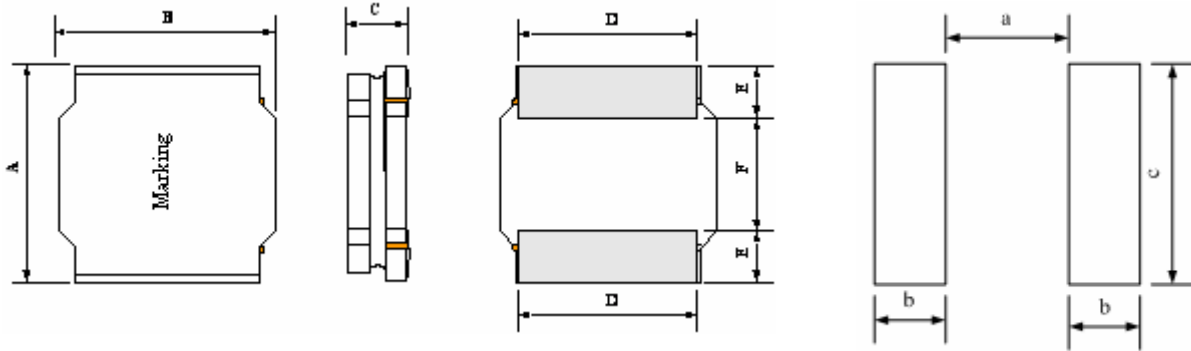

Fig.5-1
Dimensions and recommended PCB pattern for reflow soldering, please see Fig.5-1, Fig. 5-2 and Table5-1.
| 8.2 Resistance to Flexure | No visible mechanical damage.  | ① Solder the chip to the test jig (glass epoxy board) using eutectic solder. Then apply a force in the direction shown as Fig.8.2-1. ② Flexure: 2mm ③ Pressurizing Speed: 0.5mm/sec ④ Keep time: 30±1s ⑤ Test board size: 100X40X1.0 ⑥ Land dimension: Please see Fig.5-1 |